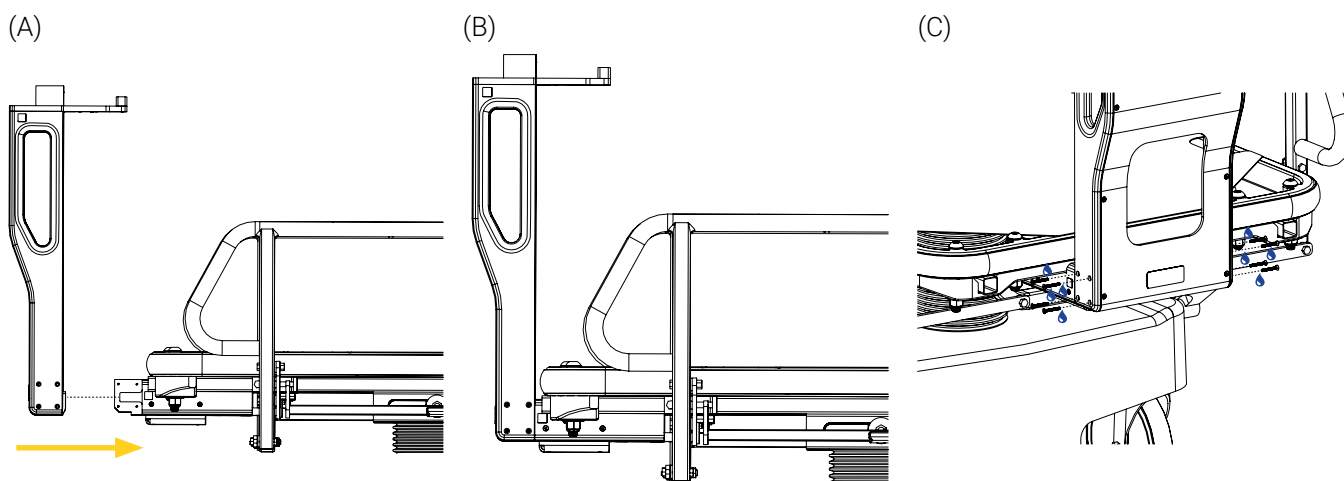

Figure 64: Installing the column
6. Slide the column on the column base horizontally, then tighten eight (8) 6-32 X 1¹/₈ in. L hex head screws coated in medium strength thread-lock adhesive by hand in a cross-pattern before tightening using a ⁷/₆₄ in. hex key (Figure 64).